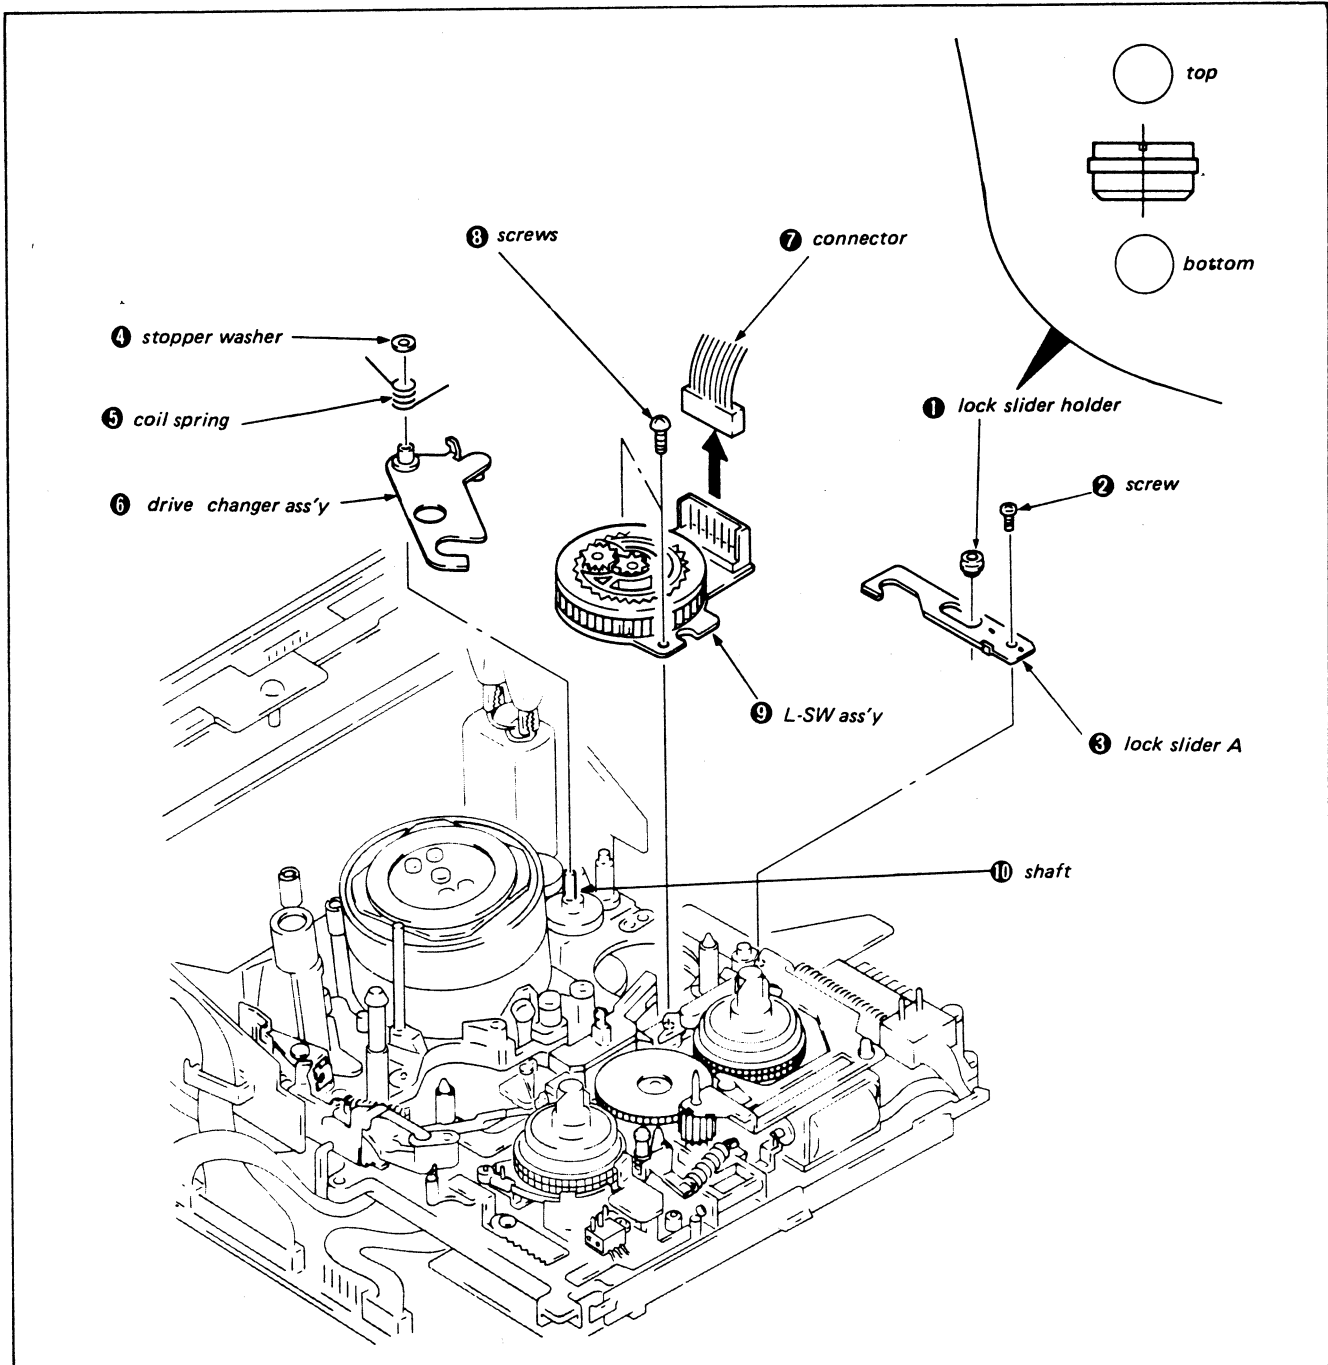

Fig. 3-29.
- 2) Remove lock slider holder ①.
- 3) Remove screw ② and lock slider A ③.
- 4) Remove stopper washer ④ and coil spring ⑤.
- 5) Remove drive changer assembly ⑥.
- 6) Remove connector ⑦.
- 7) Remove the two screws ⑧ and the L-SW assembly ⑨.
- (Refer to Fig. 3-29)
- 7) Mount the drive changer assembly ⑥. (See Fig. 3-29)
- 8) Mount the coil spring ⑤ and the stopper washer ④.
- 9) Operate the mode selector and check that the L-SW assembly ⑨ rotates.
- 10) Mount lock slider A ③ and tighten screw ②.
- 11) Mount lock slider holder ①. (Fig. 3-29)